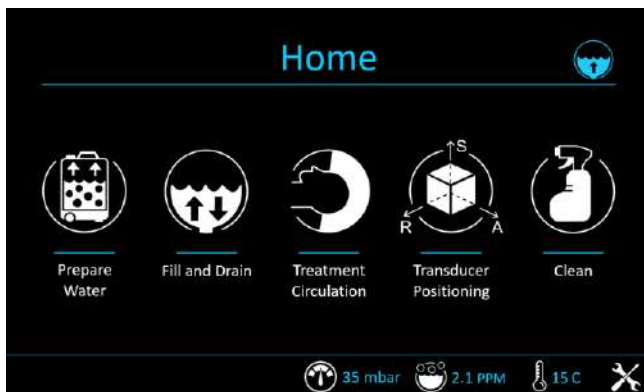

Figure 12-7: 'Home' Menu
Step 12: On the Water system main screen – ‘Home’ Menu (Figure 12-7), press the ‘Clean’ option